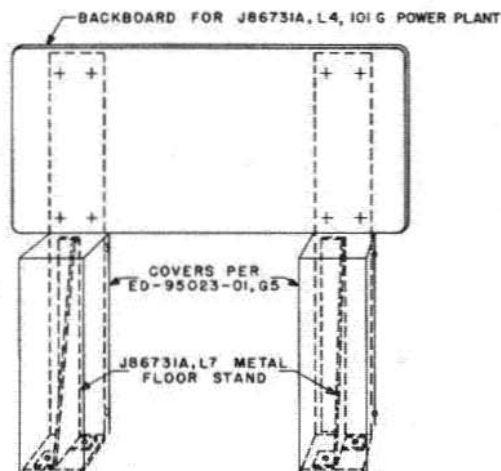

Fig. 5 — Floor Stand for J86731A, List 4, Power Plants
**3.03** The J86731A, List 7 metal stand (see Fig. 5) consists of two metal legs and is used to floor-mount the J86731A, List 4 power plant, and where appearance is important, may be enclosed with the ED-95023-01, Group 5 cover.
J86731A List 7	Metal Stand for Floor Mounting J86731A, List 4 (See Fig. 5)